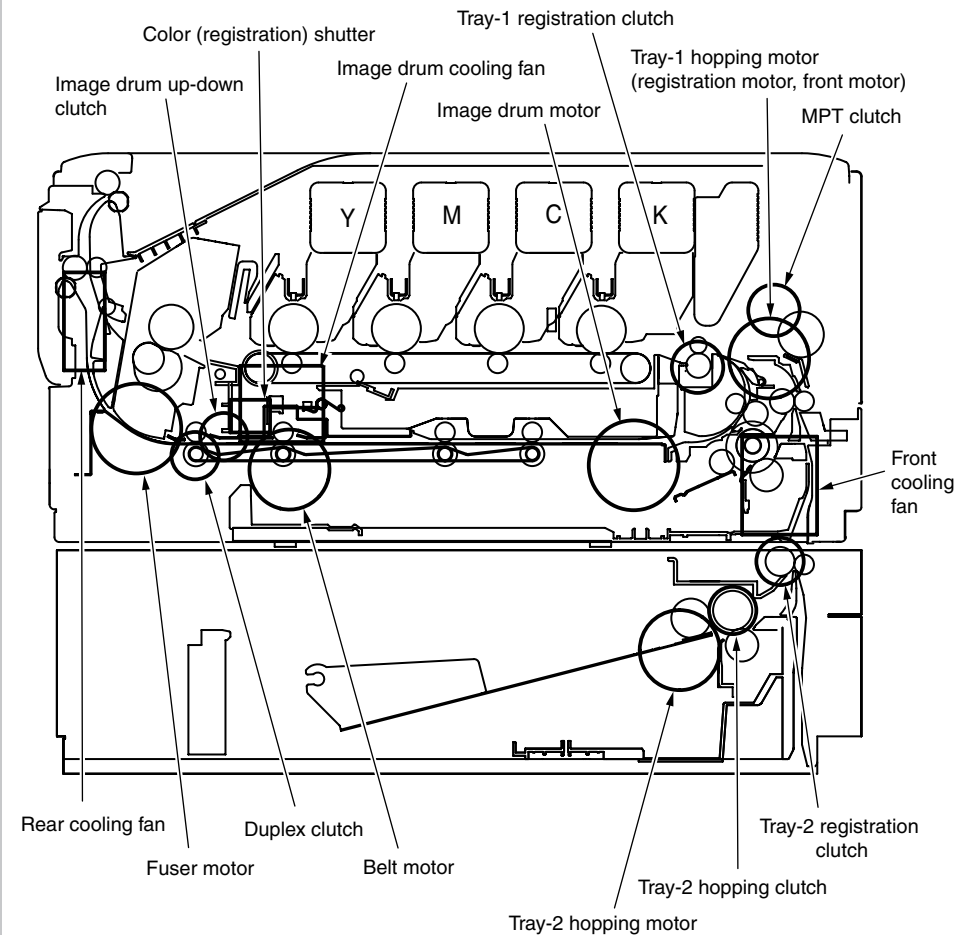

Figure 5-2
3. Press the [6] button. The motor and clutch test starts, the unit's the name starting to blink, and the unit being driven for 10 seconds (refer to Figure 5-2).